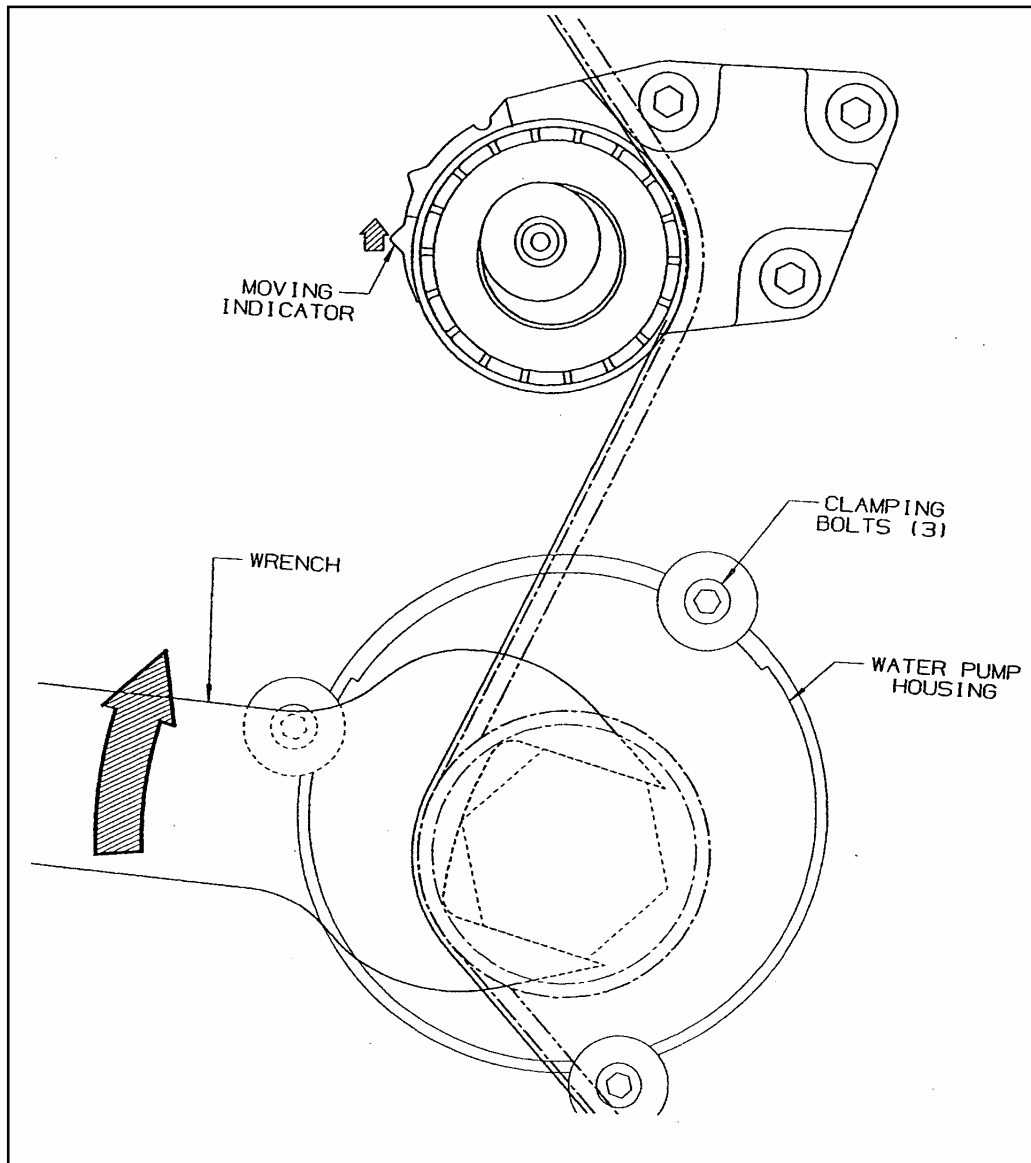

Figure 5: Rotation of Water Pump Housing for Tensioner Adjustment
8. Rotate the Water Pump Housing CLOCKWISE with the 42mm Wrench. The tensioner pulley will move against the belt and the Arm Pointer "indicator" will eventually start to move CLOCKWISE (Figure 5).